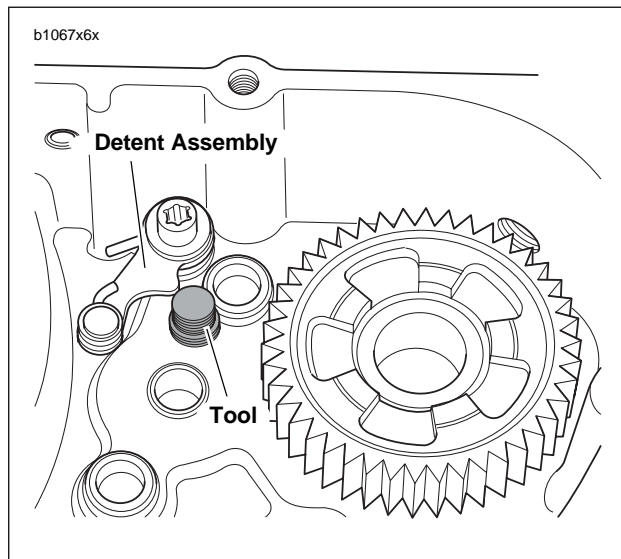

Figure 6-81. Gear Detent Assembly Aid (Part No. B-45520)
2. See Figure 6-81. Retract detent assembly in right case half and install GEAR DETENT ASSEMBLY AID (Part No. B-45520) until it has bottomed in right case half.